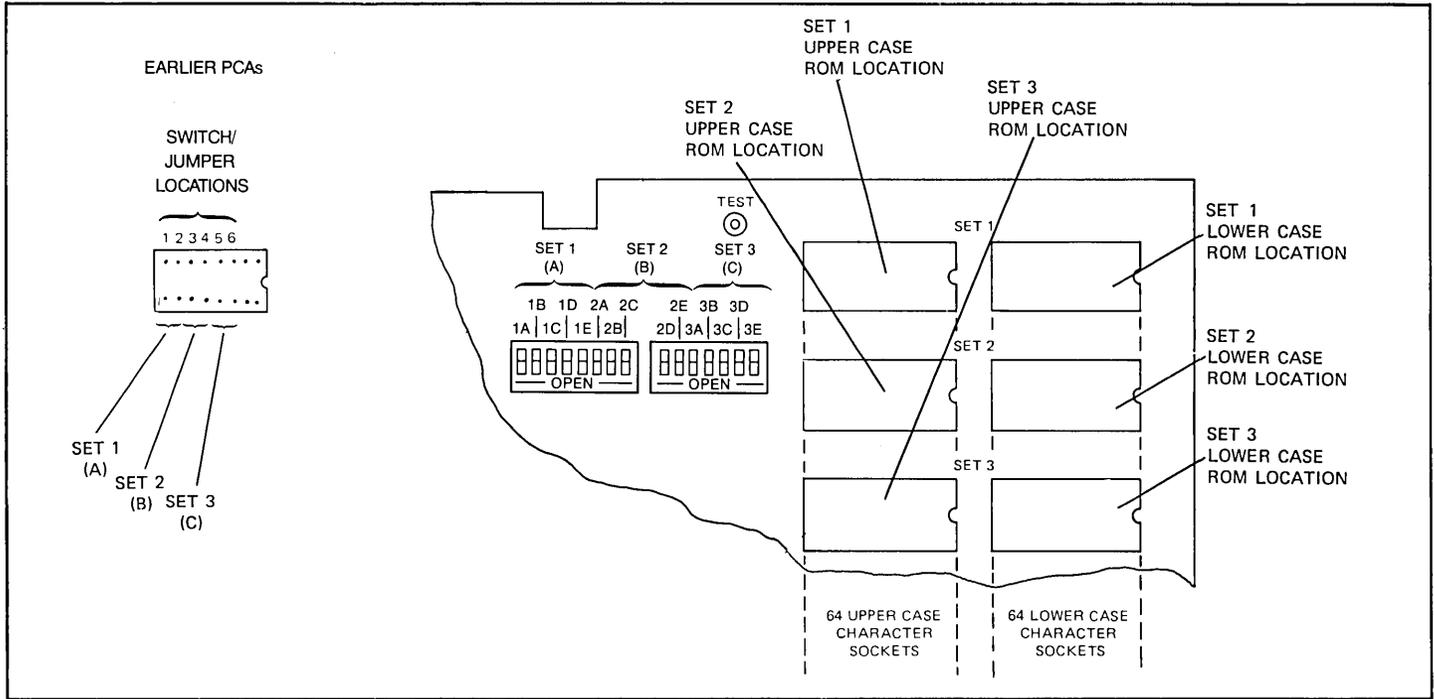

Figure 3-1. Display Enhancement PCA Switch/Jumper and ROM Socket Locations
**PROCEDURE** ..... The Display Enhancement PCA contains 15 switches, five for each character set (or, on earlier PCAs, six jumpers, two for each character set). (See figure 3-1.) One ROM IC must be inserted in the appropriate socket on the PCA for the 64 upper-case characters of each character set and one ROM for the 64 lower-case characters of each set. Descriptions of the strapping options are given in tables 3-1 and 3-1A.